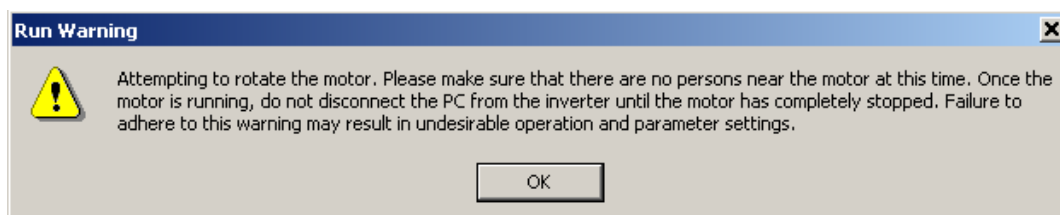

Figure 8.2: Run Wizard Warning Window
5. The warning message in Figure 8.2 will appear. Click **OK** to continue.